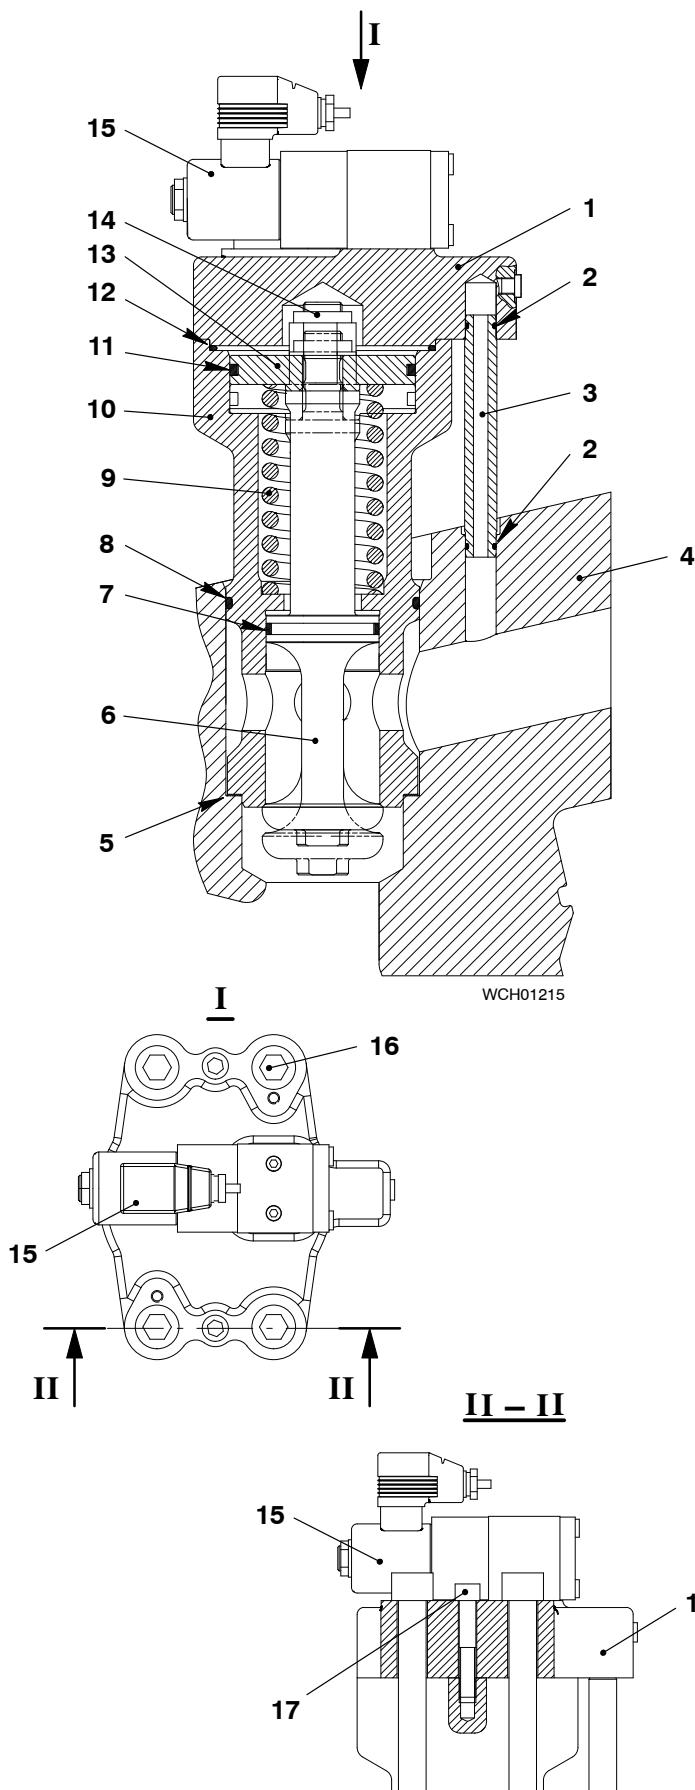

Fig. 3
- 3) Put two new O-rings (2) on the pipe (3, see Fig. 3).
- 4) Put new O-rings (8) and (12) in the housing (2).
- 5) Put the the valve spindle (6) into the housing (2).
- 6) Put the compression spring (9) into the housing (2).
- 7) Put the piston (13) in position on the valve spindle (6).